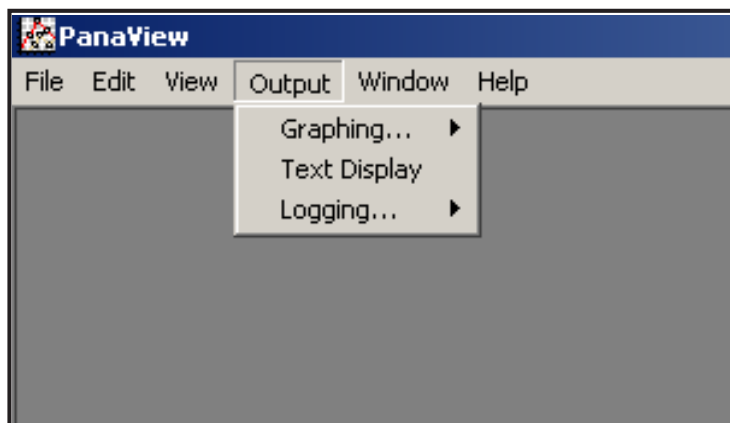

Figure 2: Output Menu
To access PanaView's data handling options, pull down the *Output* menu, as shown in *Figure 2* below.
2. Pull down the *Output* menu and click on the *Text Display* option (see Figure 2 on page 42).
2. Pull down the *Output* menu and click on the *Graphing - New* option (see Figure 2 on page 42).